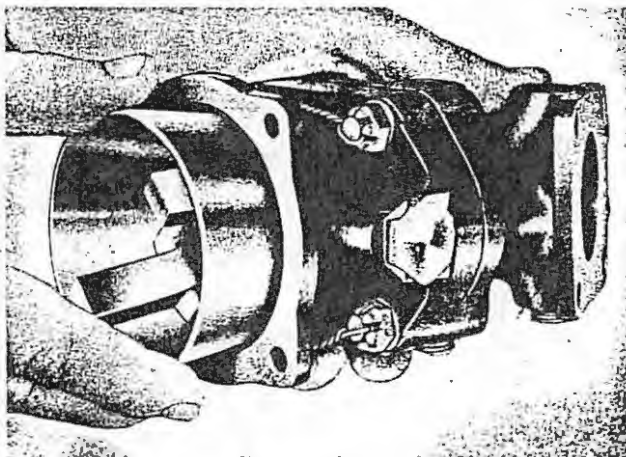

Figure 5-68. Check Freedom of Movement with Flyweight Cup
b. Determine freedom of movement of the control by turning the drive gear shaft or by removing the head and turning the flyweight cup since the head should be removed during installation. See figure 5-68. Abnormal binding or dragging due to improper fit or foreign particles in the mechanism will usually be revealed by this preliminary test. In cold weather, the increased viscosity of the oil surrounding the parts may cause increased resistance to rotation. In a new control, a similar condition due to corrosion preventive compound may exist. It is not necessary to remove the corrosion preventive from the governor as it does not interfere with proper operation and should cause no trouble when absorbed into the engine lubricating system.